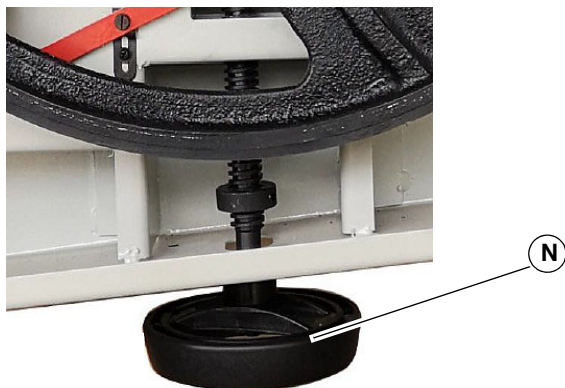

Fig. 31: Change the saw band
Step 4: Release the tape tension by turning the handwheel (Pos. N, Fig. 31).